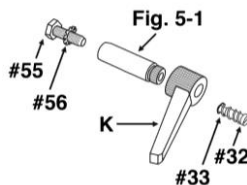

Fig. 5
2. Take apart the locking lever assembly, which includes a square headed bolt (#55), star washer (#56), splined shaft (Fig. 5-1), lever (K) and a screw (#32) with a spring (#33) (Fig. 5).